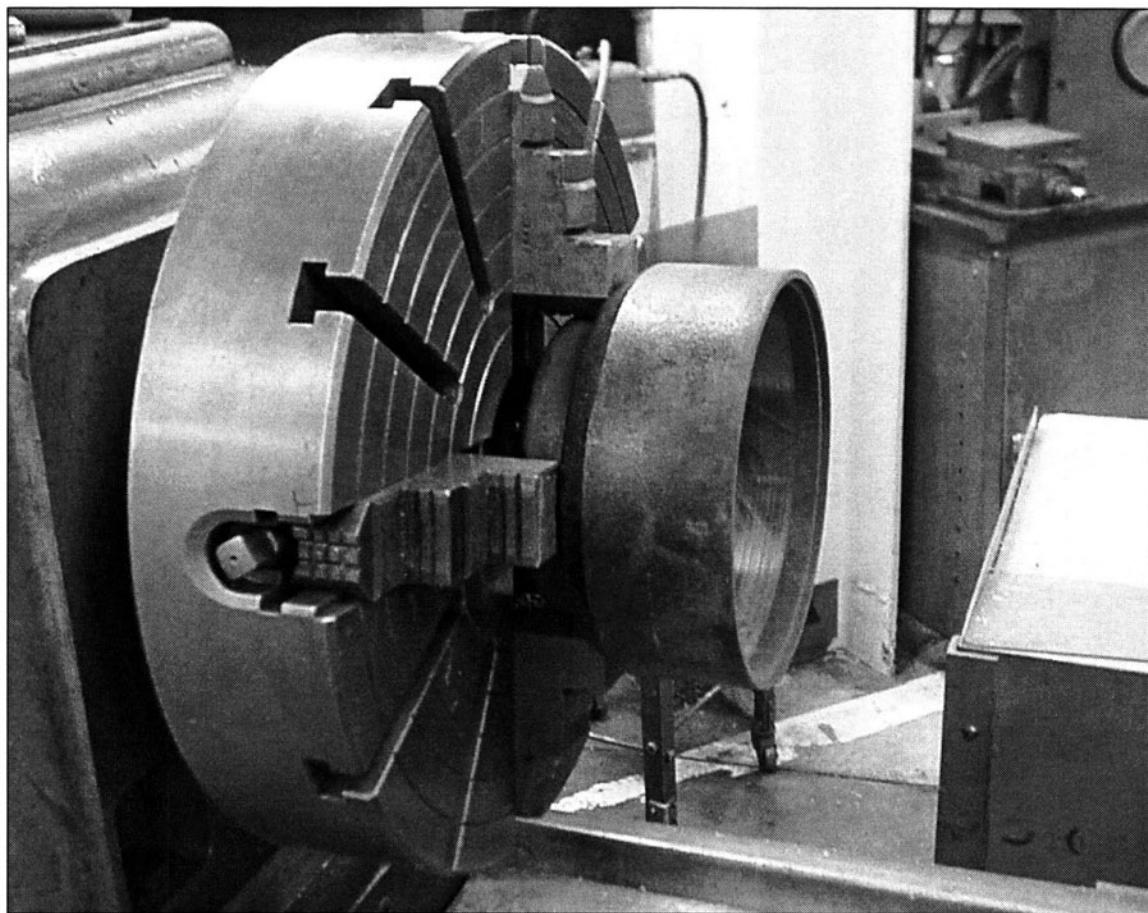

FIGURE 6-4 Four jaw chucks are the best way to hold round stock when there is little stock to hold.
3. *Use a four jaw chuck when you don't have much stock to hold. (See Fig. 6-4)*